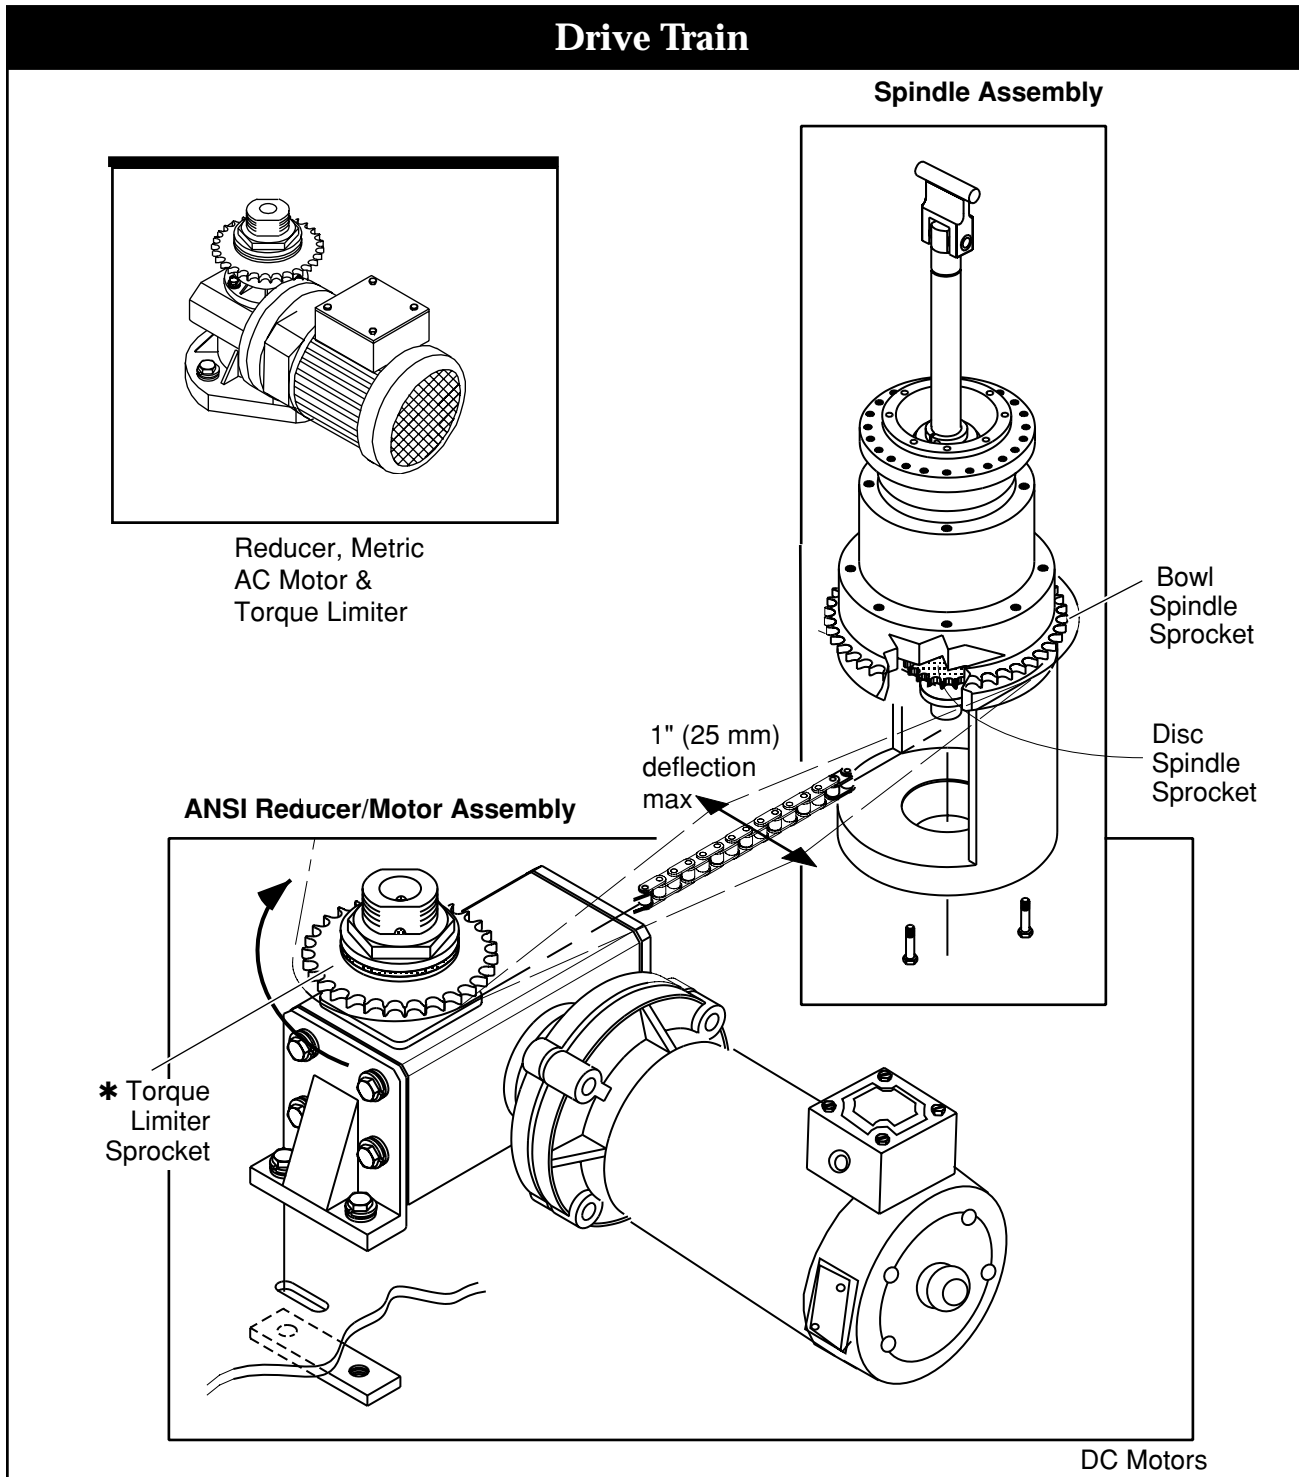

Figure 4-4. FT-40/50-RD Drive Train
Step 2—Inspect Drive Chain. Midway between sprockets, grasp each chain and wiggle it back and forth. You should be able to move it no more than a total of 1" (25 mm) as shown in Figure 4-4.
Step 6—Replace Chain. Replace chain and inspect chain tension (refer to Figure 4-4 on page 31).
Step 7—Replace Chain & Covers. Install bowl drive chain. Inspect chain tension (see Figure 4-4 on page 31). Replace covers and re-connect power and air.